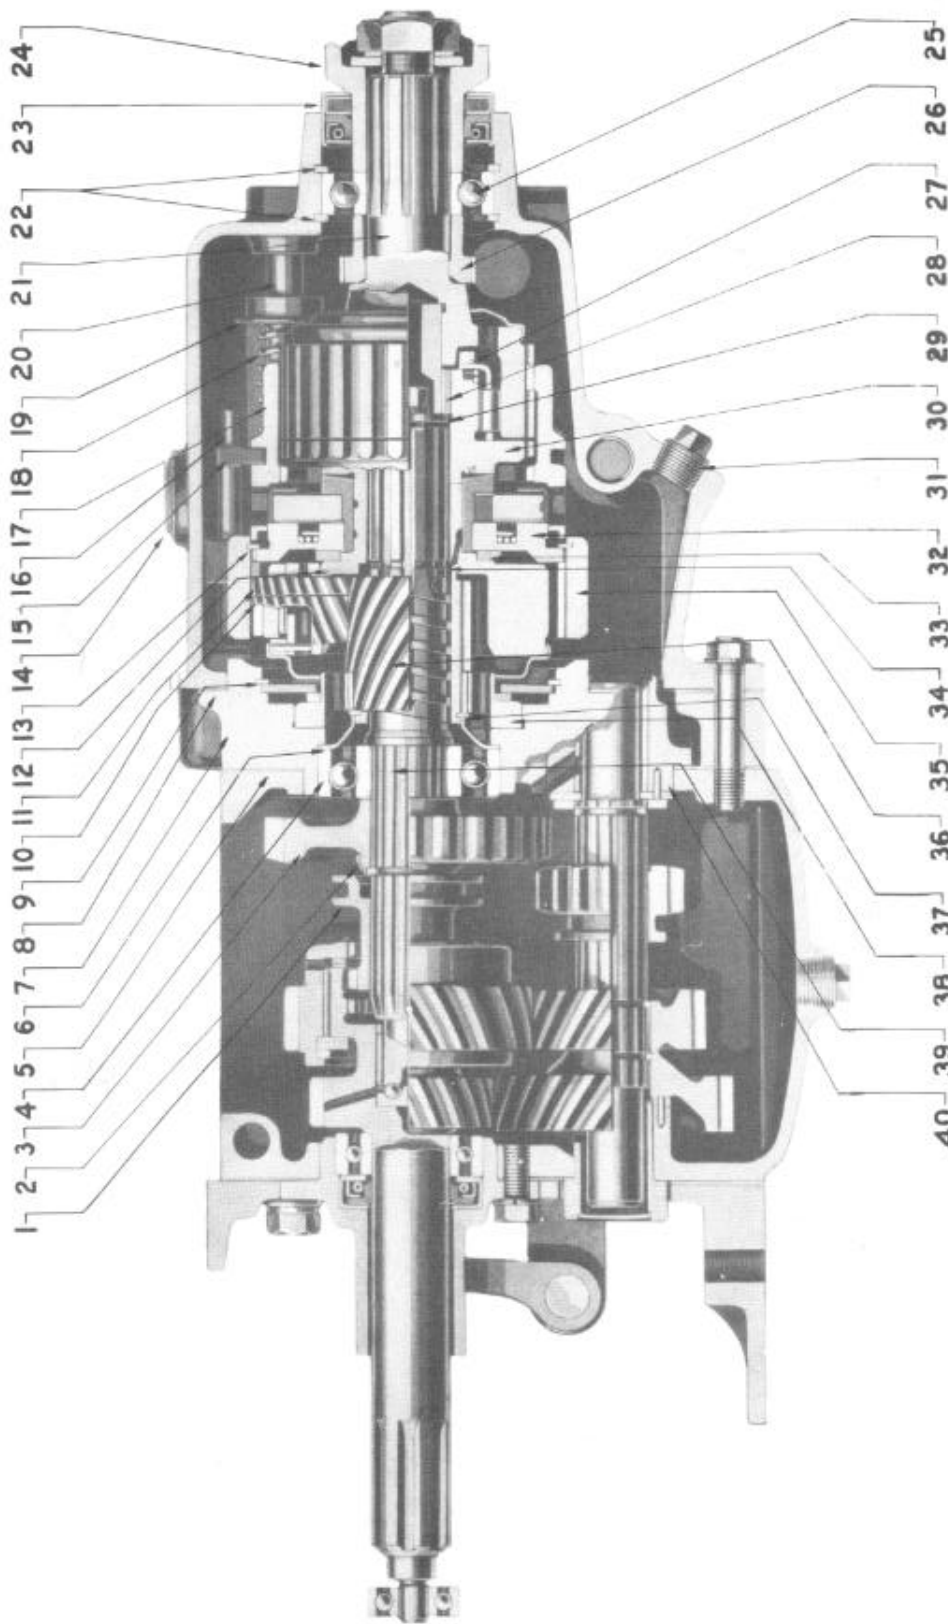
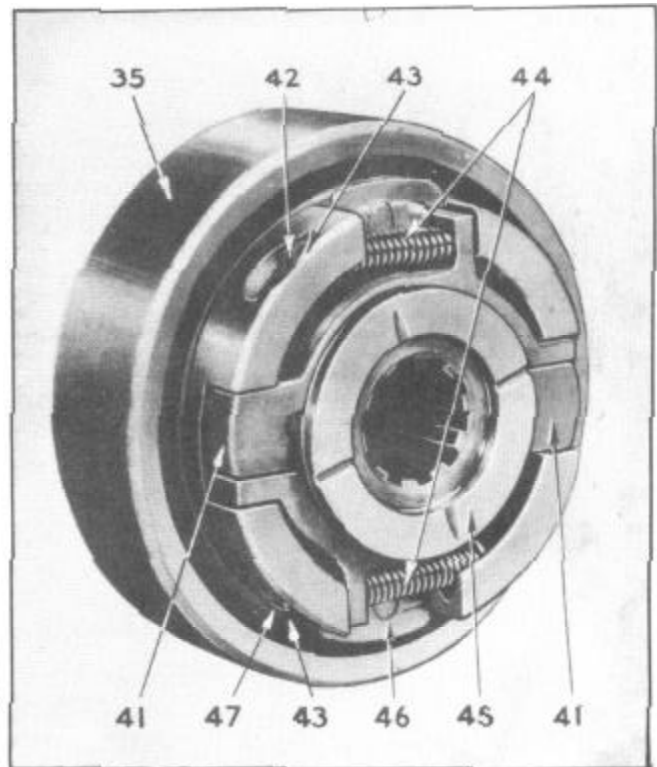

Figure 17--Transmission Overdrive
Figure 23--Overdrive Clutch Pawl and Core Assembly Complete
The overdrive clutch sleeve (17), see Figure 17, is constructed with two internal gears, one gear at the rear which is constantly in mesh with the external teeth on the front end of the overdrive main shaft. The other internal gear is at about the center of the sleeve and is meshed with the external teeth of the free-wheeling cam (30), when the overdrive control button is pulled out. The clutch sleeve slides back and forth by means of a shifter fork (15) operated by the control button. This shifter fork rides in a groove cut on the outside surface of the clutch sleeve and when the control button is pushed in, it actuates this shifter fork and moves the clutch sleeve forward. By pulling the control button out the clutch sleeve is moved backward which meshes the internal teeth of the sleeve with the external teeth of the free-wheeling cam. When the clutch sleeve and free-wheeling cam are in this position they are locked to the overdrive main shaft (21) through the internal teeth in the sleeve, causing all three pieces to rotate together as a solid unit, thereby preventing freewheeling and overdrive operation.
The overdrive clutch pawls (41), see Figure 23, are held out of engagement from the overdrive clutch sleeve by spring pressure. With the control button pushed in and with car speed of approximately 30 to 35 miles per hour centrifugal force overcomes the tension of these springs
(44) and the outer ends of the pawls engage with the holes in the overdrive clutch sleeve (17), Figure 17. However, if the control button is in the out position the holes in the clutch sleeve will not line up with the pawls and the pawls are then held in a disengaged position by the pawl locking ring (46), Figure 23 which prevents the pawls from engaging, with the sleeve, thus preventing overdrive operation.